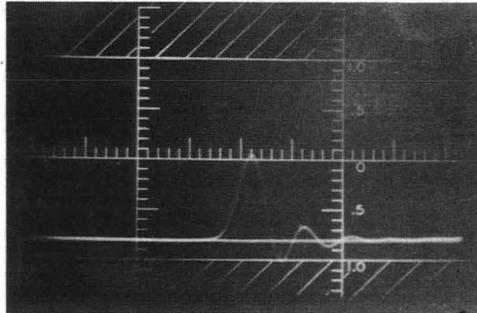

Fig. 6 - High Frequency Distortion
7.15 The relation between gain and phase at the upper video frequencies is such that transmission problems in that range are likely to be complex and to include distortion other than that attributable to attenuation alone. Misalignment or other failure in the feedback amplifiers may cause distortion. Another possible source of this trouble is in the IF channel. A non-symmetrical or badly distorted transmission characteristic will distort the signal side bands and cause picture irregularities similar to those produced by poor transmission in the video amplifiers. There will generally be overshoots at the pulse edges such as shown in Fig. 6 and these may be followed by one or more ripples or echoes. The phase problem in the IF portions of the system may sometimes be difficult to analyze. Any appreciable deviation from normal will usually be accompanied by a change in the gain characteristic which will be seen in a sweep frequency test. In a limiter, however, it is possible to obtain a typically flat transmission characteristic while introducing phase distortion which seriously degrades the upper frequencies. Whenever it is necessary to repair or maintain the limiter, the special procedures given in Sections R10.304 and R20.364 should be closely followed. The low-pass filters at the discriminator outputs in the FM receiver are passive devices which should require no attention. Should a failure occur, though, the response may be altered. Still another possible source of high frequency distortion is an impedance irregularity anywhere in the IF or RF portion of the system. Impedance is most important where the connecting cable is long. An open center conductor in the cable will result in loss or reduction of signal level and will distort the transmission characteristic of the amplifier. There may also be a substantial increase in interference pick-up if the receiver is subject to strong radiation fields.